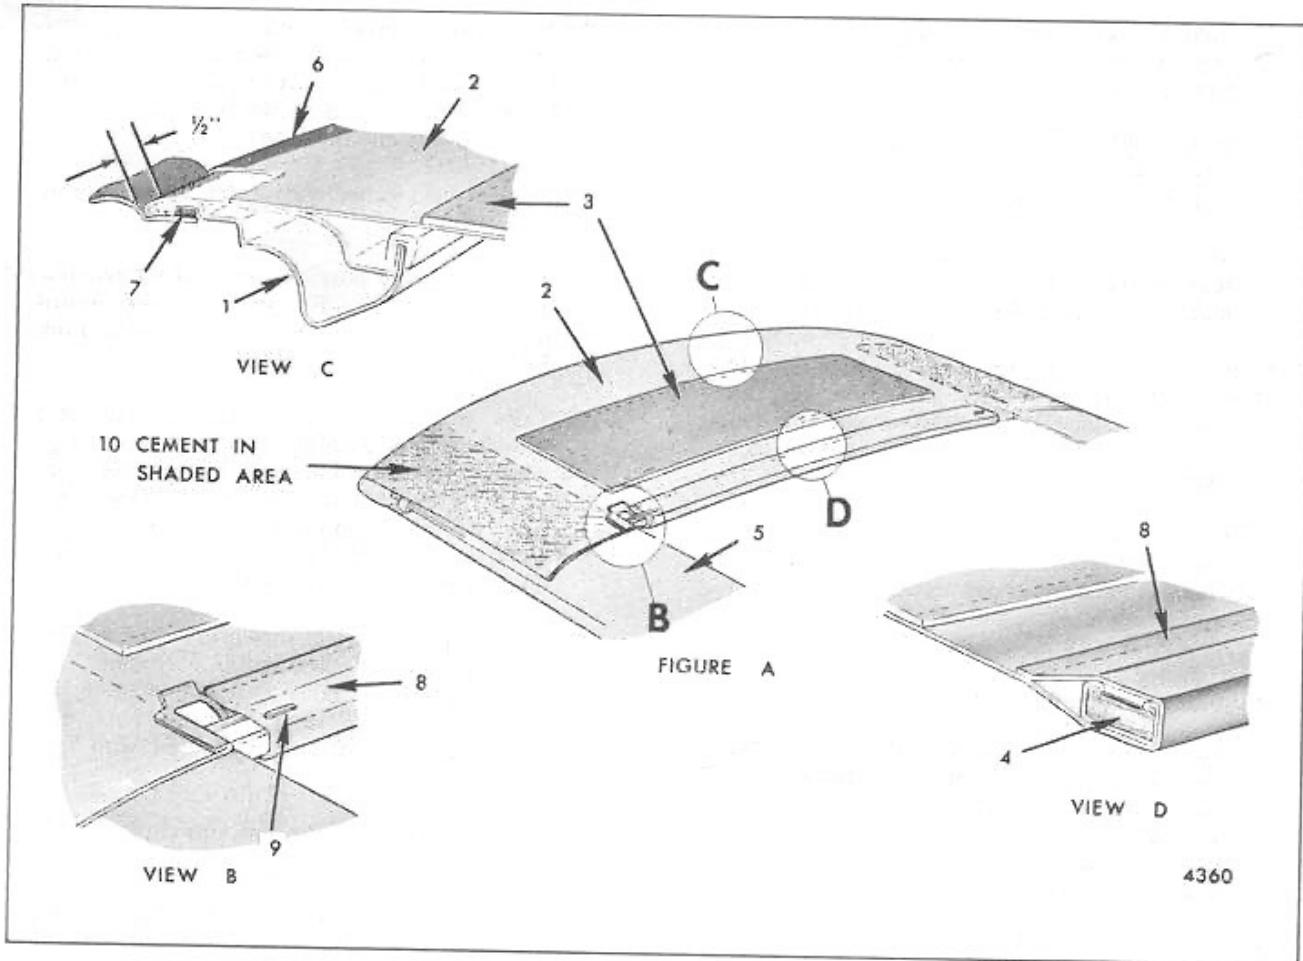

Fig. 13-Folding Top Silencer Assembly Attachment
- C. Unlock front roof rail, apply cement to attaching surfaces at front of cover and on front roof rail (Fig. 13). Apply cement to underside of front roof rail. This includes trimstick and both corners.
the folding top at the front, and is secured around its perimeter as follows (Fig. 13):
5. Turn back top cover and detach cemented side sections of silencer from side quarter padding (Fig. 13).
1. With deadener padding on top side of assembly, slip pocket of silencer assembly onto front roof bow (Fig. 13). Center silencer between side quarter padding and secure silencer pocket to front roof bow by installing one staple or tack at each outer end as shown.
3. With top lowered, apply trim cement to front roof rail and to silencer as shown in Figure 13. Lock top to windshield header. With silencer centered between side quarter padding pull assembly forward tightly and secure to front edge of front roof rail. Cement only at forward 1/2 inch edge of front roof rail.
7. Detach affected side of silencer assembly where cemented to side quarter pad assembly (Fig. 13).
3. Using trim cement sparingly, cement affected side of silencer assembly to side quarter pad assembly (Fig. 13).